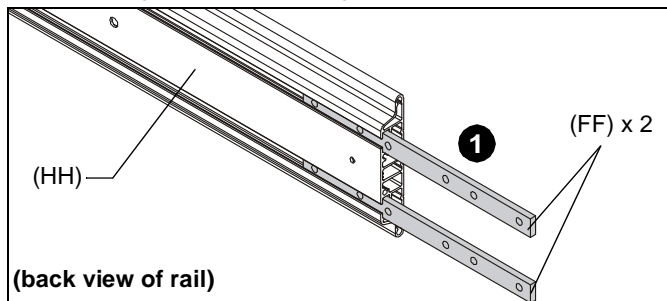

Figure 1
- Insert two tie bars (FF) into the slots on one end of the 72" mounting rail (HH). (See Figure 1)